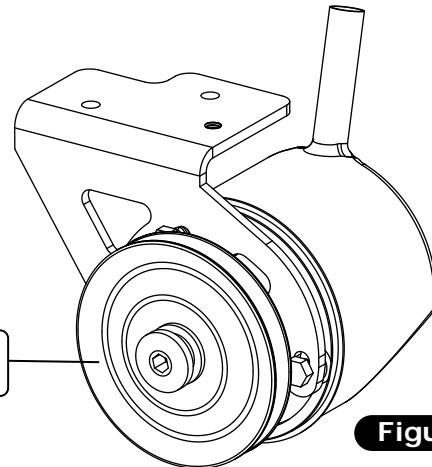

Figure 4
7. Install the pulley onto the pump (See Figure 4, below).